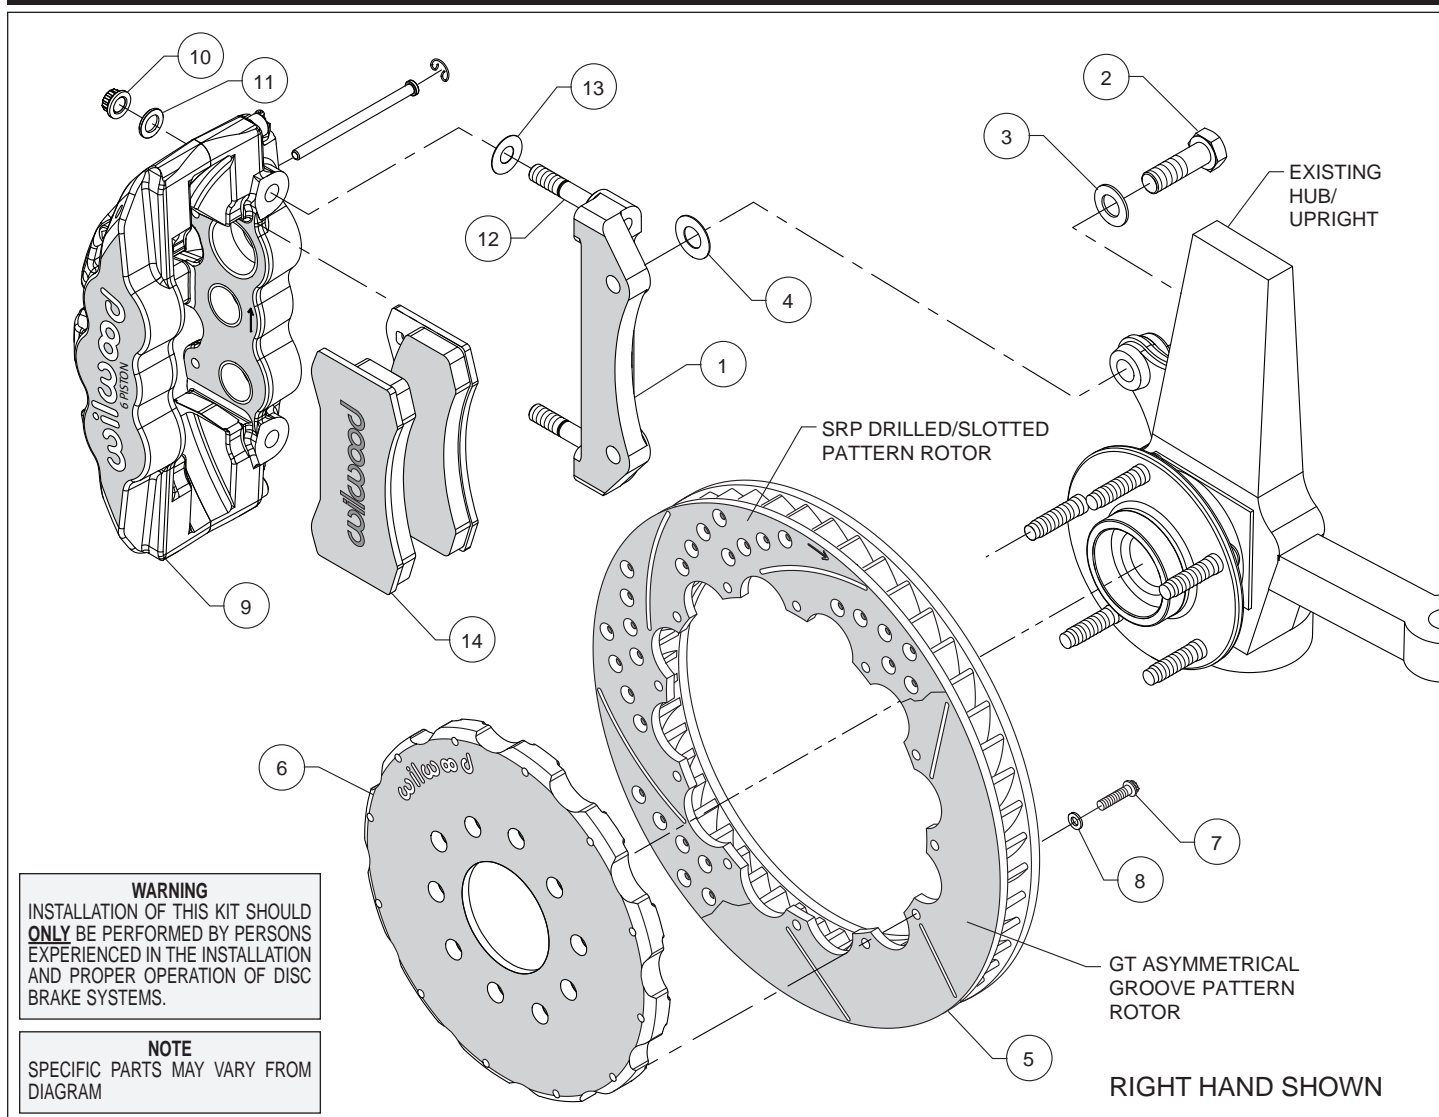
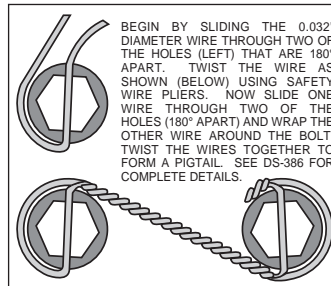

Figure 1. Typical Installation Configuration
Figure 3. Safety Wire Diagram
Assembly Instructions (numbers in parenthesis refer to the parts list and Figure 1 on the preceding pages):
- The caliper mount bracket (1) should initially be installed with clean, dry threads on the mounting bolts. Orient the bracket, as shown in Figure 1 and Photo 1, and install using bolts (2) and washers (3). Initially place one .029" thick shim (4) on each bolt between the bracket and upright, Figure 1. Temporarily tighten the mounting bolts. **NOTE:** *The bracket must fit squarely against the mount bosses on the upright.* Inspect for interference from casting irregularities, machining ridges, burrs, etc. Later, after the caliper alignment has been checked, the mount bolts will be secured using red *Loctite*® 271.
- Orient the rotor (5) and the hat (6) as shown in Figure 1 and Photo 2. Attach rotor to hat using bolts (7) and washers (8). Using an alternating sequence, apply red *Loctite*® 271 to the threads, and torque to 155 in-lbs. For an added measure of security, the bolts may be safety wired using standard 0.032 inch diameter stainless steel safety wire as shown in Figure 3. Refer to Wilwood's data sheet DS-386 (available at www.wilwood.com/Pdf/DataSheets/ds386.pdf) for complete safety wire installation instructions.
- NOTE:** *This kit contains distinct right and left hand calipers that must be mounted in a specific direction, as described below.* Lubricate the caliper mounting studs (12) with lightweight oil. Initially place one .030" thick shim (13) on each stud between the caliper and the bracket, as shown in Figure 1 and Photo 4. Mount the caliper (9) onto the bracket (1) using lock nuts (10) and washers (11), Figure 1. Temporarily tighten the lock nuts. Ensure that the caliper is mounted so the largest pistons are at the rotor exit end of the caliper, in relation to the direction of the rotor. View the rotor through the top opening of the caliper. The rotor should be centered in the caliper, Photo 5. If not, adjust by adding or subtracting shims (4) between the bracket and the upright. Always use the same amount of shims on each of the two mounting bolts. Once the caliper alignment is correct, remove the bracket mounting bolts one at a time, apply red *Loctite*® 271 to the threads, and torque to 77 ft-lbs.
- Remove the caliper (9), then remove the two pad retaining pins from the caliper by carefully popping out the pin retaining clips and sliding out the pins. Insert the brake pads (14) into the caliper from the bottom, Figure 1 and Photo 6. With the friction material facing the rotor, secure the brake pads in place with the pad retaining pins and clips, Photo 7. Reinstall the caliper onto the caliper mounting bracket and temporarily tighten the lock nuts. Check that the top of the brake pad is flush with the outside diameter of the rotor, Photo 8. If not, adjust by adding or subtracting shims (13) between the caliper and the bracket. After the caliper pad height is set, torque the caliper lock nuts (10) to 47 ft-lb.